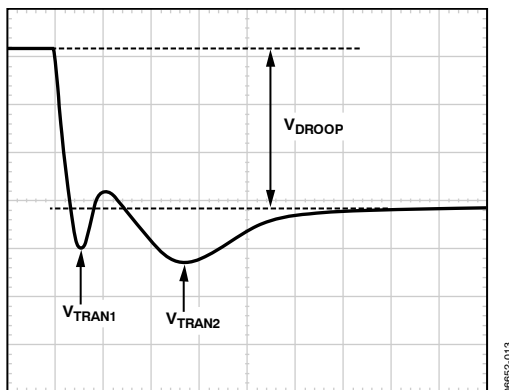

Figure 16. Transient Setting Waveform
1. With the dynamic load set at the maximum step size, expand the scope time scale to either 2 μ s/div or 5 μ s/div. This may result in a waveform that has two overshoots and one minor undershoot before achieving the final desired value after V_{DROOP} (see Figure 16).